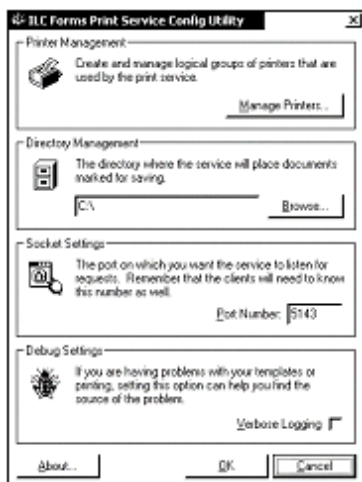

Figure 6-27: Print Service Configuration Window
1. Double click the file IlcPrintSvcCfg.exe located in the directory c:\ProgramFiles\ILC\ILC Forms Print Service\. The Print Service Configuration window will appear. It consists of four sections: Printer Management, Directory Management, Socket Settings, and Debug Settings (Figure 6-27).